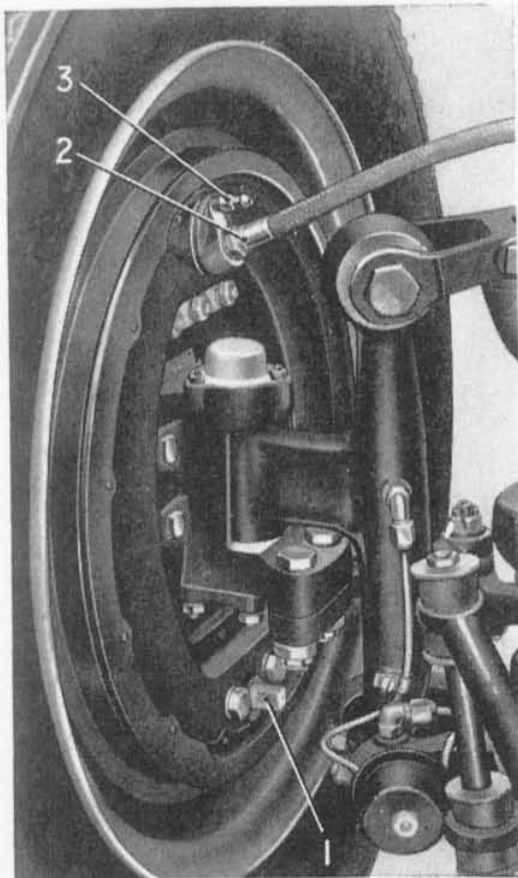
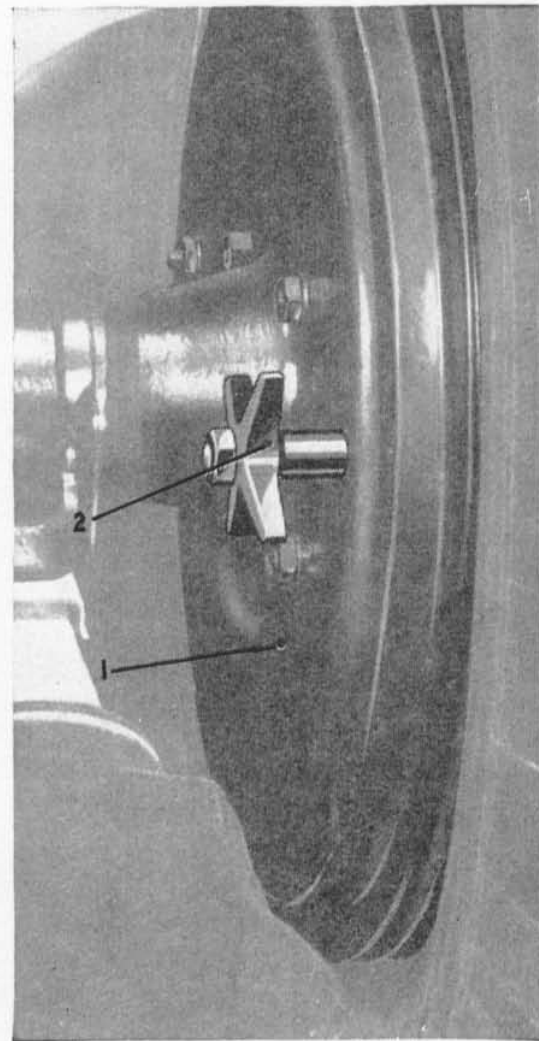
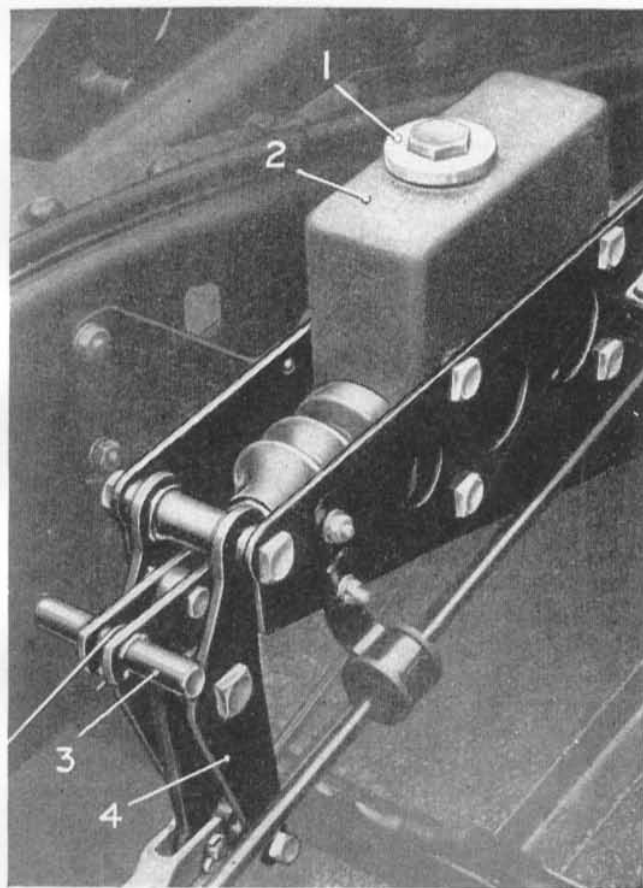

Fig. 18.—FRONT BRAKE ADJUSTMENT.
Fig. 19.—REAR BRAKE ADJUSTMENT.
Fig. 20.—THE HYDRAULIC MASTER CYLINDER AND RESERVOIR.
The method of adjustment is the same for both front and rear brakes, with the exception that a hand wheel is provided on the rear brake adjusters, while a $\frac{1}{4}$ " B.S.F. open-ended spanner must be used on the squared end of the front brake adjusters. The rear adjusters (2, Fig. 19) are located forward of the axle tubes, and the front adjusters (1, Fig. 18) directly below the steering pivot pins.
1. Attach a clean rubber drain tube to one front brake bleeder screw (3, Fig. 18), and immerse the other end in a clean glass jar in which there is sufficient hydraulic brake fluid to submerge the end of the tube.
2. Release the bleeder screw (3) half to one turn.
3. Remove the filler plug (1, Fig. 20) and fill the reservoir integral with the master cylinder, with the recommended fluid. (See page 30.)
4. Push the joint forward until the extended pin (3) abuts against the master cylinder support brackets (4).